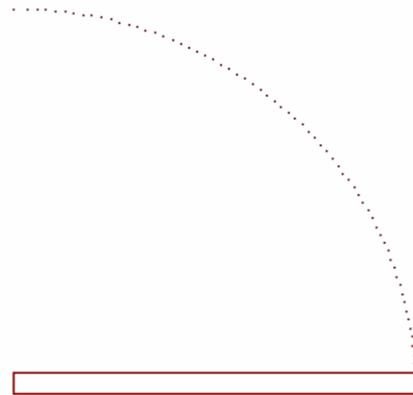

Fig. 6.2: 2'03'' x 0'1.5'' door
- Similarly save door2.dwg file where the size of rectangle will be 2'03''x0'1.5'' as shown in Figure.6.2.